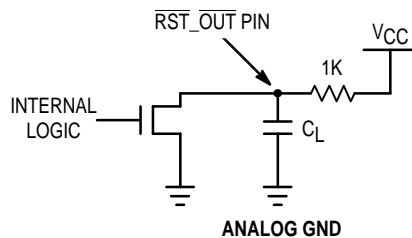

Figure 3. RST_OUT Test Circuit
5. The $\overline{RST_OUT}$ pin is an open drain N-Channel output. Therefore an external pull-up resistor must be provided to pull up the $\overline{RST_OUT}$ pin when it goes into the high impedance state (after the MC88LV926 is phase-locked to the reference input with $\overline{RST_IN}$ held high or 1024 'Q' cycles after the $\overline{RST_IN}$ pin goes high when the part is locked). In the t_{PLZ} and t_{PZL} specifications, a 1K Ω resistor is used as a pull-up as shown in Figure 3.